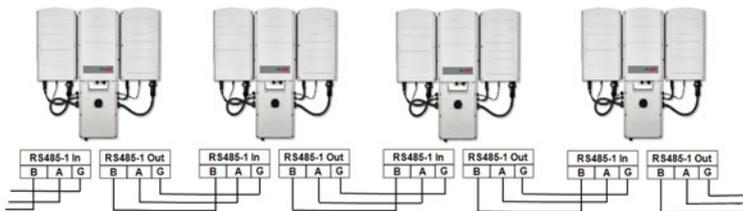

Figure 42: Connecting the inverters on a bus
- Insert the wire ends into the **G**, **A** and **B** pins shown above. Use one terminal block for the previous inverter in the bus and the other terminal block for the next inverter in the bus, as shown in *Figure 42*.